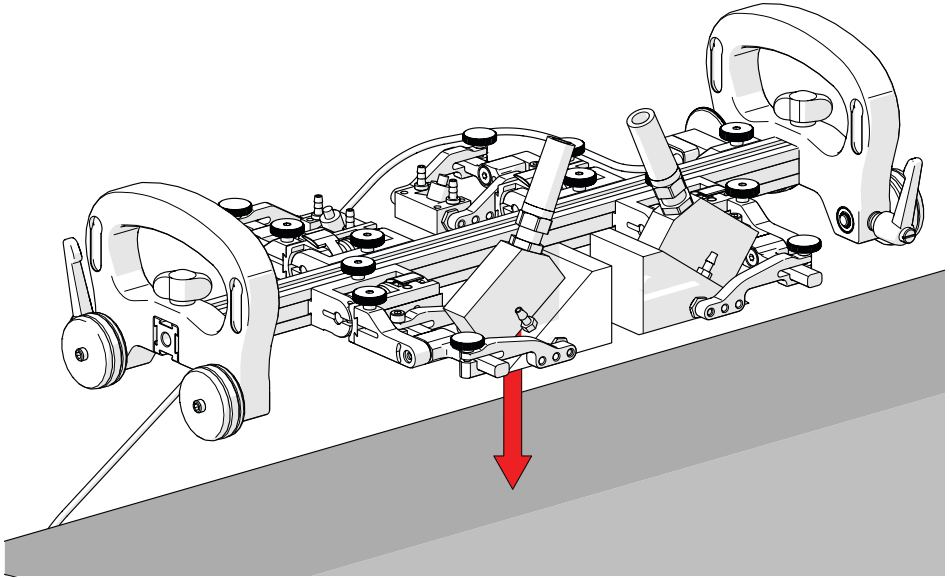

Fig. 11 - Place on scan surface
4. Place the configured **STIX** on the scan surface (Fig. 11).